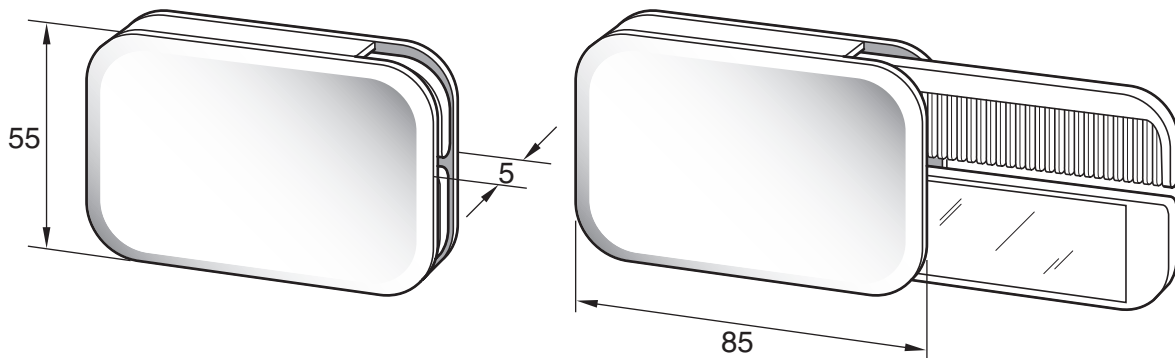

Fig. 7
- 5 Fig. 7 shows two views of a pocket plastic comb and mirror set. It is the size of a credit card and 5mm thick.